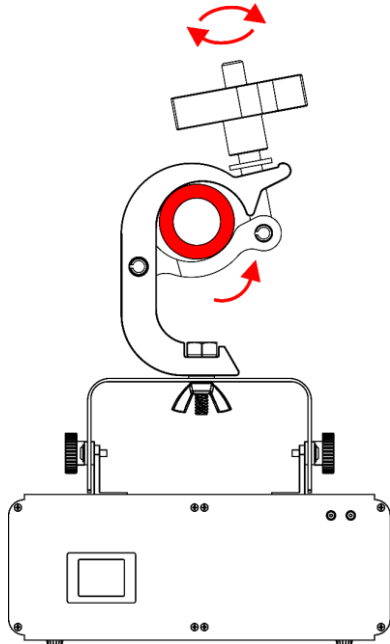
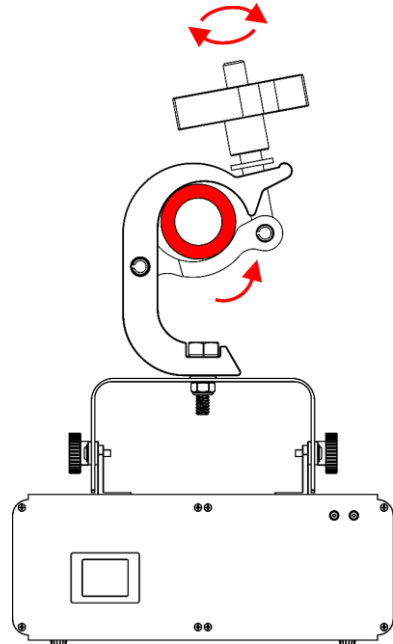

Fig. 07
Fig. 08
06) Put the device, with the installed load, around a tube (\varnothing 48–51 mm) and close the **lock (04)**. See Fig. 07 or Fig. 08.